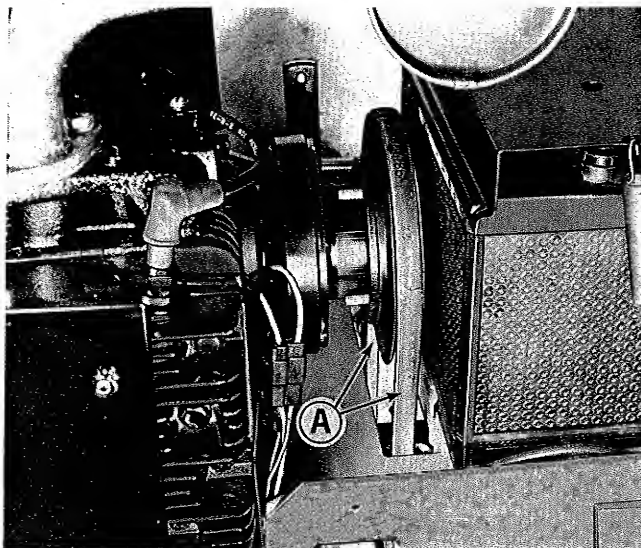

Figure 9. Mower drive belt over engine pulley.
11. See figures 9 and 10. Raise the tractor hood and feed the mower drive belt over the engine front power take off pulley and down around the idler pulleys located in the hitch assembly. Be sure the belt "V" is in the pulley grooves and twisted correctly as shown.
15. See figure 9. Check the belt at point (A) to insure that it is at least 1/4" away from the tractor frame and battery. If it is not, adjust the left idler pulley according to the instructions on page 7 of this manual under Mower Drive Belt Tension Adjustment.
5. See figure 9. Check the distance at (A). There should be at least 1/4" clearance between the belt and the tractor battery and frame. If there is not, proceed as follows:
- c. Move idler pulley (E) forward or rearward as required to center the belt between the tractor frame and battery (Figure 9, Item A). Moving idler pulley (B) for-